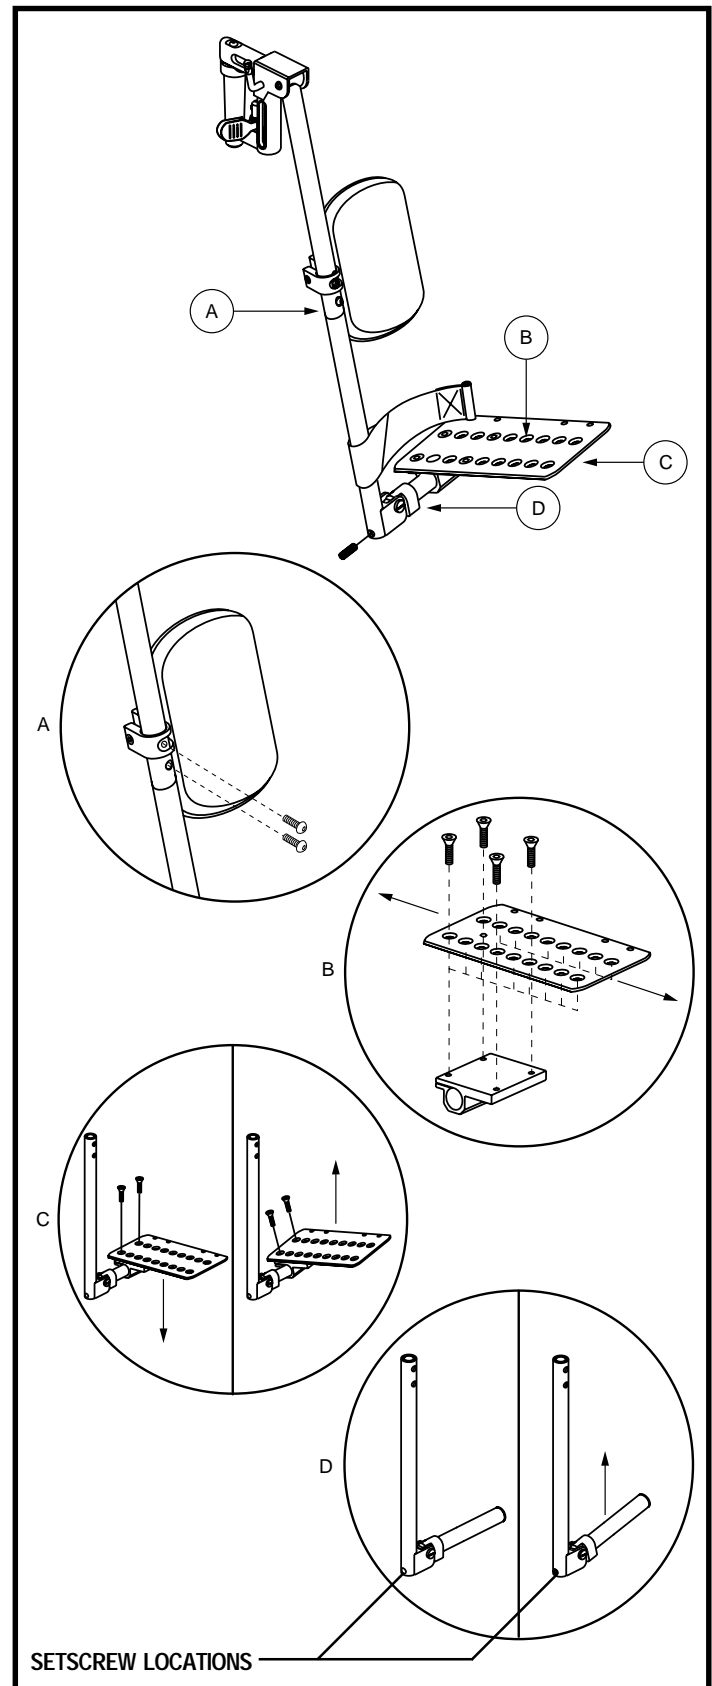

Figure 25. Multi-Axis Foot Plate (ELR Shown)
The multi-axis foot plate assembly can be installed on either a swing-away footrest or an elevating leg rest. The multi-axis foot plate has four adjustments: leg rest length (A), position (B), tilt (C), and angle (D). See figure 25.